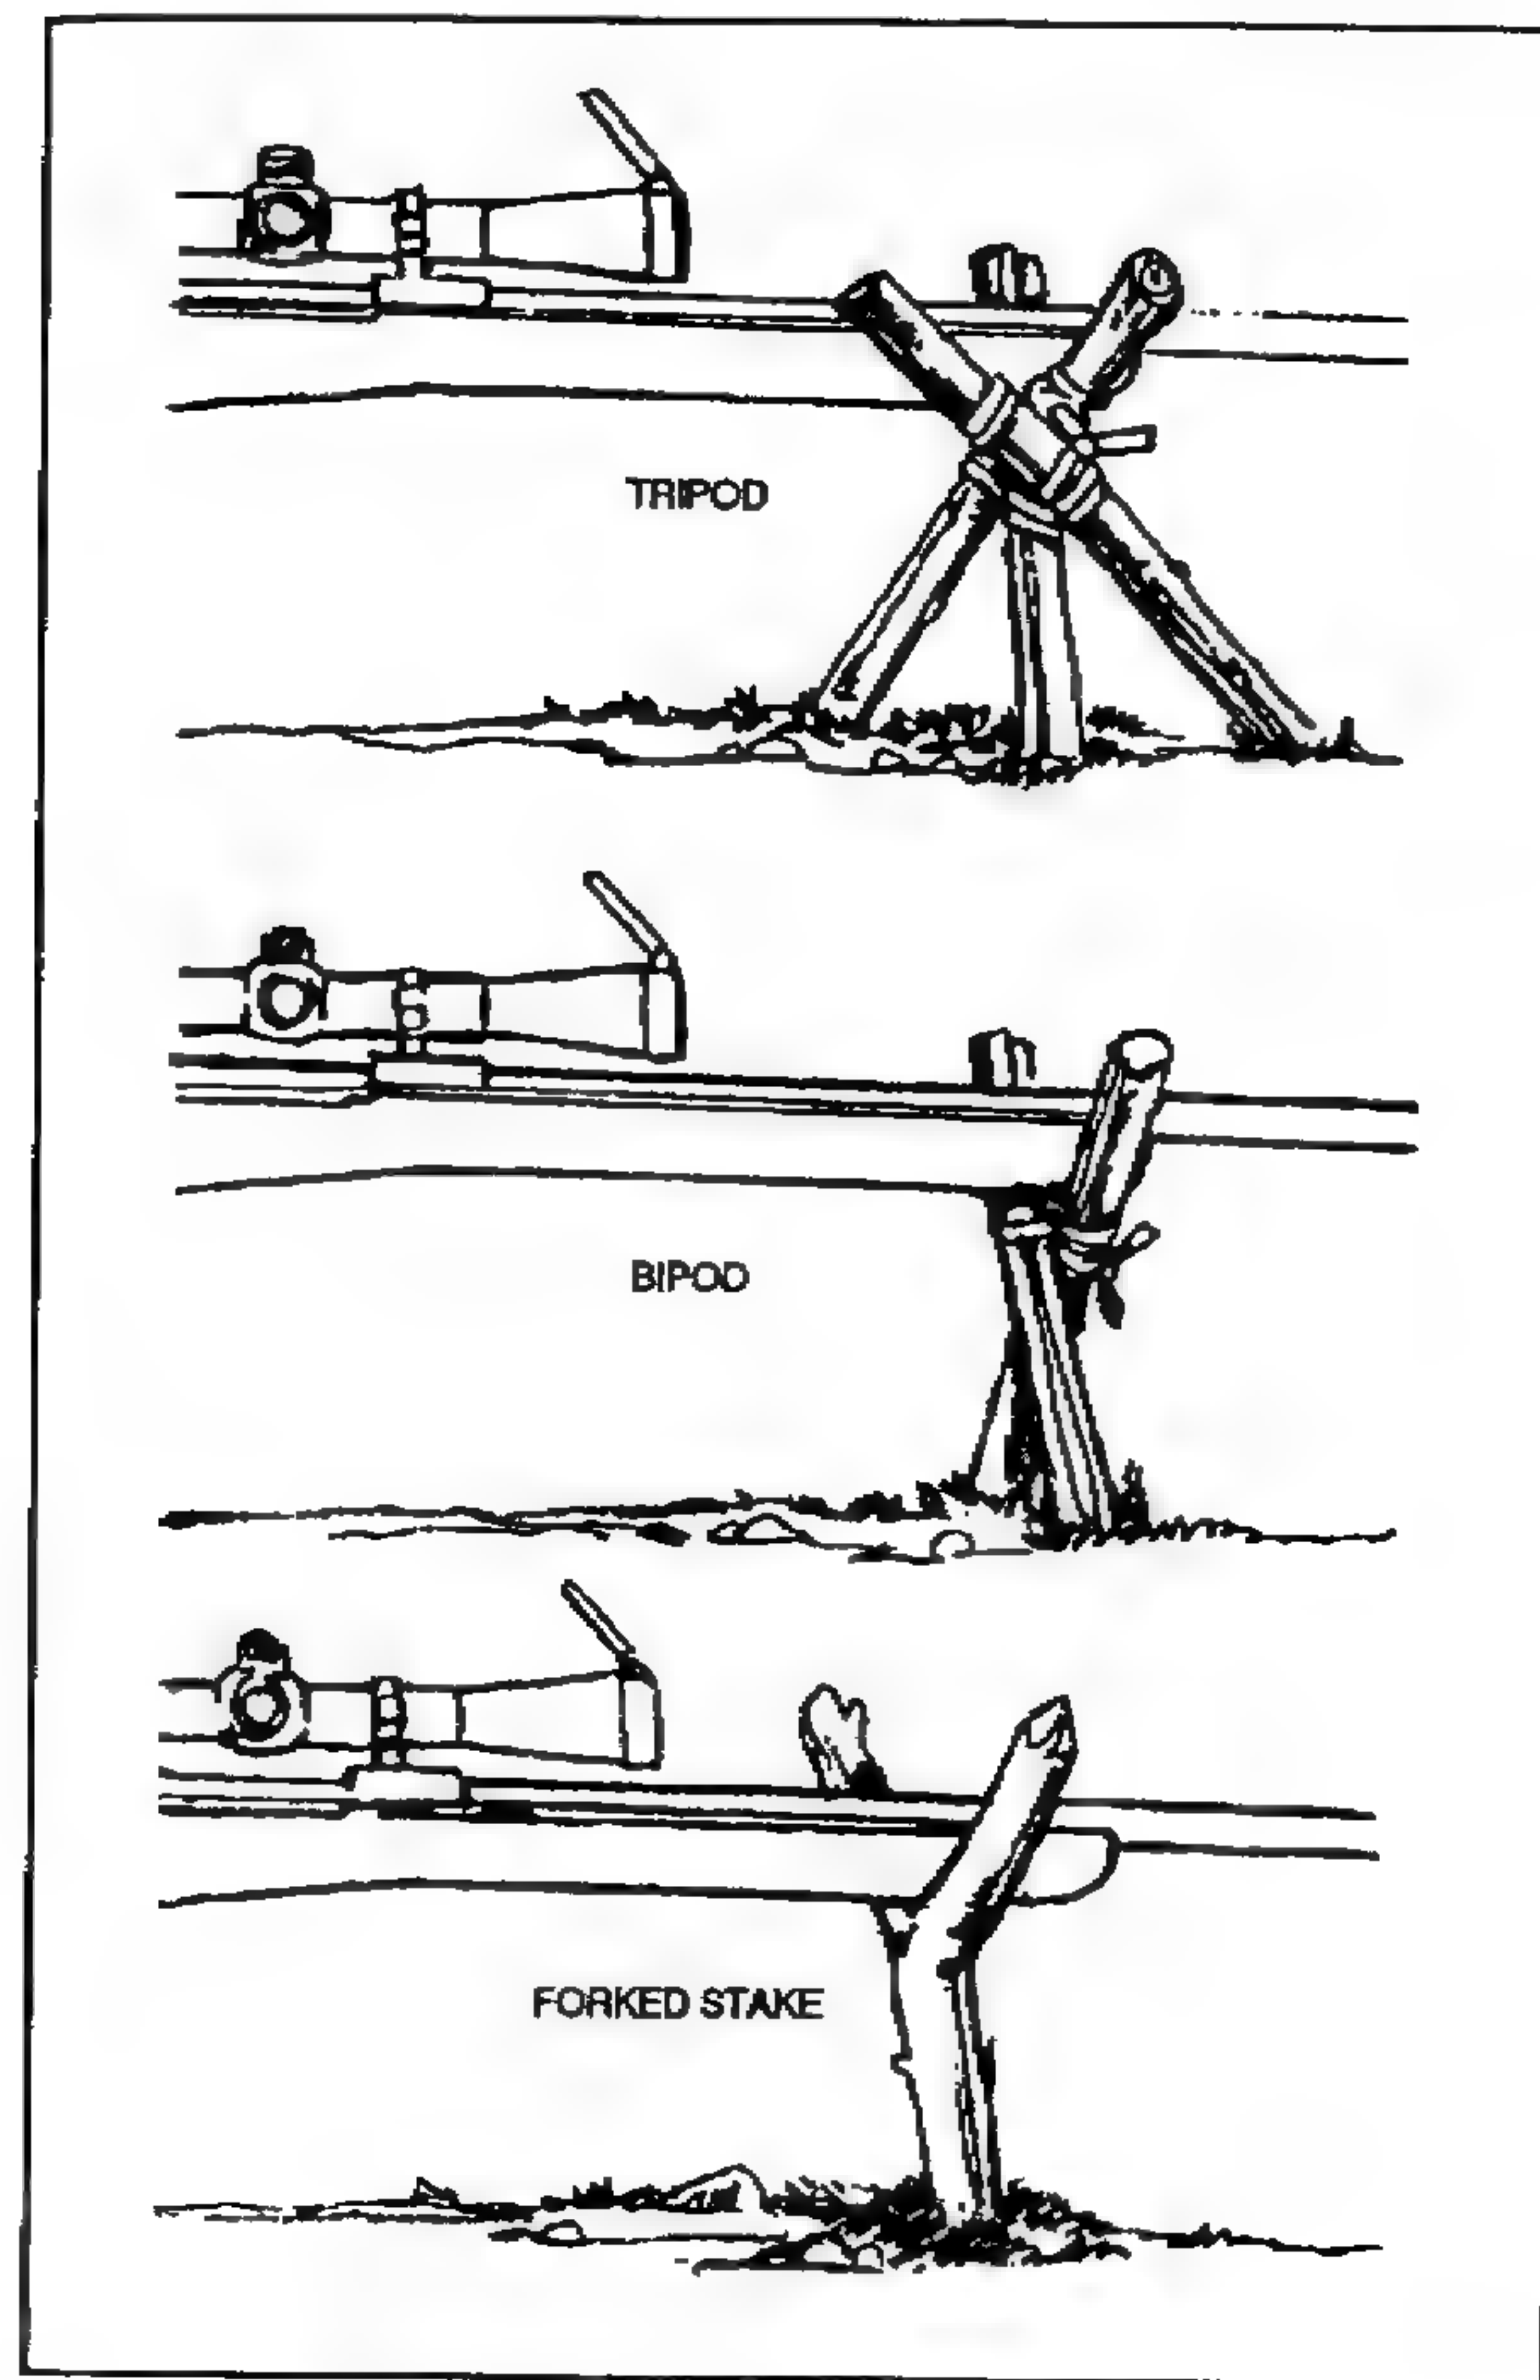

Figure 3-12. Field-expedient tripod, bipod, and forked stake.
(4) *Tripod.* The sniper can build a field-expedient tripod (Figure 3-12) by tying together three 12-inch long sticks (one thicker than the others) with 550 cord or the equivalent. When tying the sticks, he wraps the cord at the center point and leaves enough slack to fold the legs out into a triangular base. Then, he places the fore-end of the weapon between the three uprights.
(5) *Bipod.* The sniper can build a field-expedient bipod (Figure 3-12) by tying together two 12-inch sticks, thick enough to support the weight of the weapon. Using 550 cord or the equivalent, he ties the sticks at the center point, leaving enough slack to fold them out in a scissor-like manner. He then places the weapon between the two uprights. The bipod is not as stable as other field-expedient items, and it should be used only in the absence of other techniques.
(6) *Forked stake.* The tactical situation determines the use of the forked stake. Unless the sniper can drive a forked stake into the ground, this is the least desirable of the techniques; that is, he must use his nonfiring hand to hold the stake in an upright position (Figure 3-12). Delivering long-range precision fire is a near-impossibility due to the unsteadiness of the position.